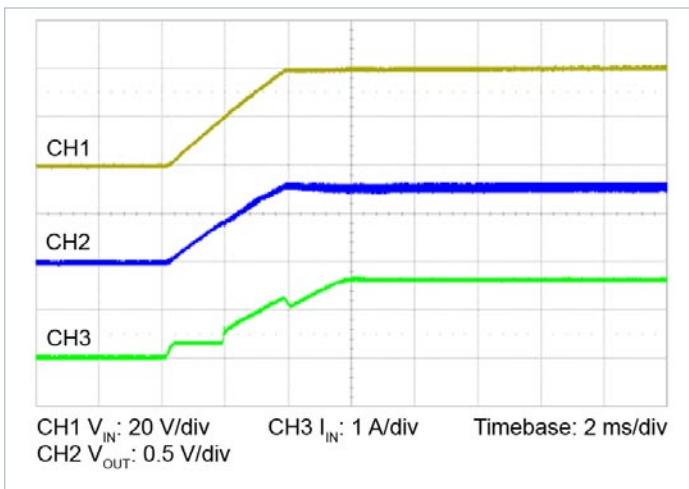

Figure 12 — Start up from application of V_{IN} ; V_{CC} pre-applied $C_{OUT} = 10000 \mu\text{F}$
- **Normal start up operation (VCC applied prior to Input voltage):** In this case the controller is active prior to ramping the input voltage. In this mode of operation, EN signal and CM signal appear when VCC crosses its under-voltage point. TM signal appearance is delayed by about T_{ON} time from EN signal. CM signal goes to 0 V when TM signal appears with no input voltage applied. It is recommended to apply the input voltage after TM signal appearance. When the input voltage is applied, the VTM module output voltage will track the input (See Figure 12). The inrush current is determined by the input voltage rate of rise, input and output capacitance. If the VCC voltage is removed prior to the input reaching 0 V, the VTM may shut down. This mode of operation is recommended when this VTM operates with upstream regulator such as PRM. Timing diagram shows the power up sequence for such mode of operation.